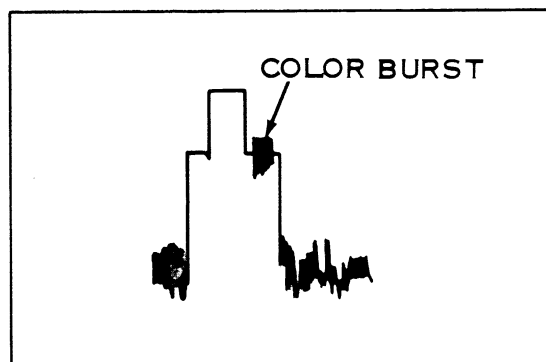
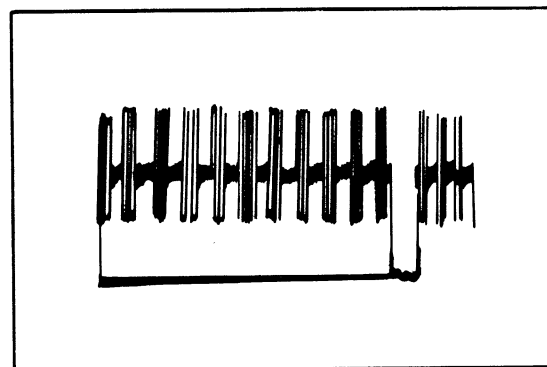

Figure 6-5. Color-Burst Shows to Right of Sync. Pulse
Figure 6-6. Typical Output From Color-Bar Generator
- k. Figure 6-5 shows typical color TV signals. The color-burst is situated immediately to the right of the sync. pulse. When a color bar generator is used, the composite display resembles that of Figure 6-6.